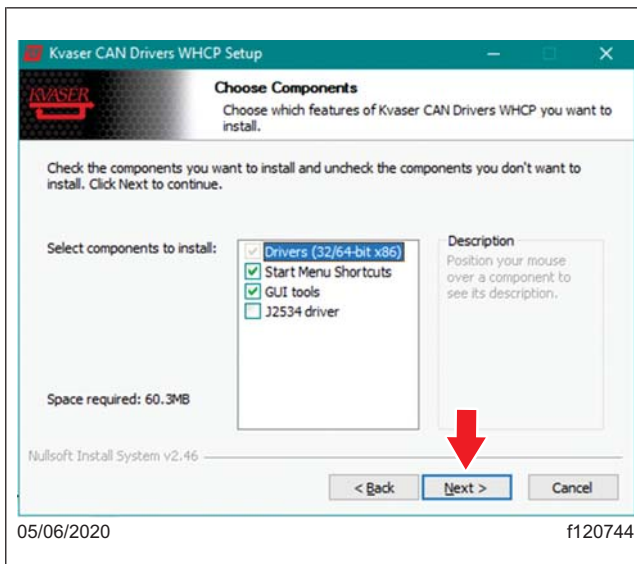

Fig. 11, Choose Components Window
- The 'Choose Components' window appears next. All of the components are automatically selected. If there are components you do not want to install, remove the check mark beside the component(s) and select 'Next' as shown in Fig. 11.